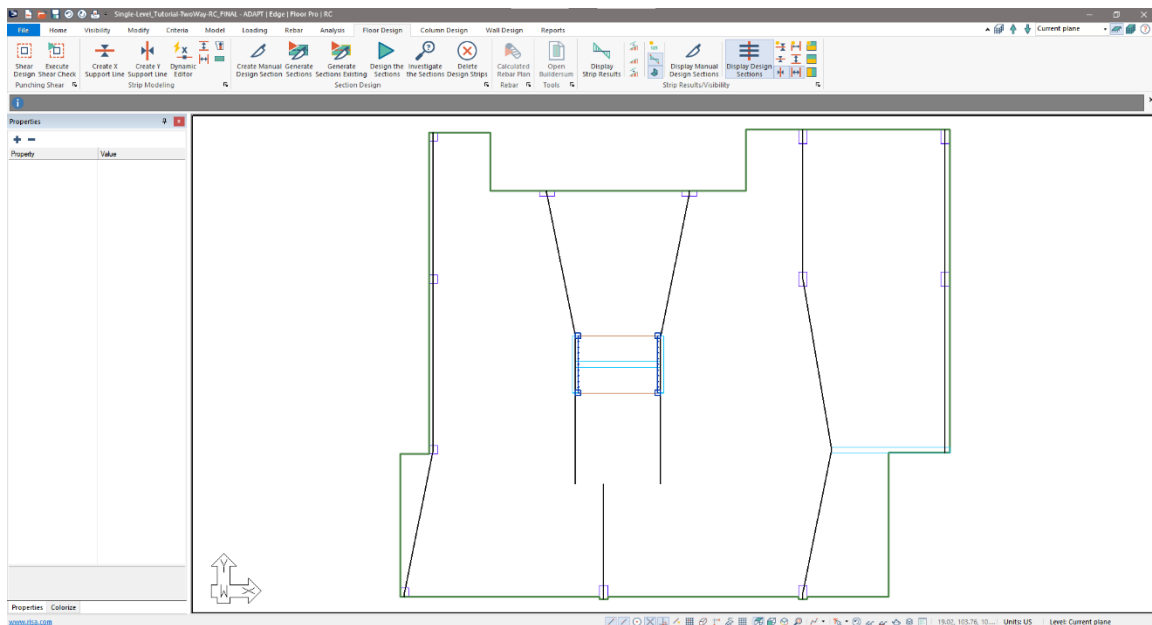

Figure 6-30
- Click on the *Top View*  icon in the **Bottom Quick Access Toolbar**. This will bring you to the view of the model shown in **FIGURE 6-30**.